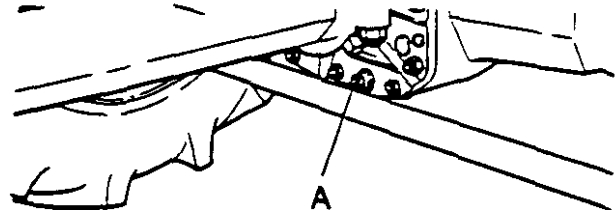

FIGURE 6 DRAIN POINT
1. Remove the oil from the differential and front hubs. See Figures 6 and 7.